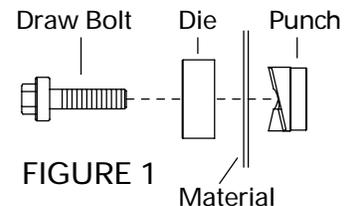

FIGURE 1
3. Place the die on the draw bolt with the open end of the die facing the material to be punched. Insert the draw bolt through the hole drilled in Step 2. Thread the punch onto the draw bolt until snug against the material. The punch cutting edges should face the material to be punched. (See FIGURES 1, 2, and 3.)